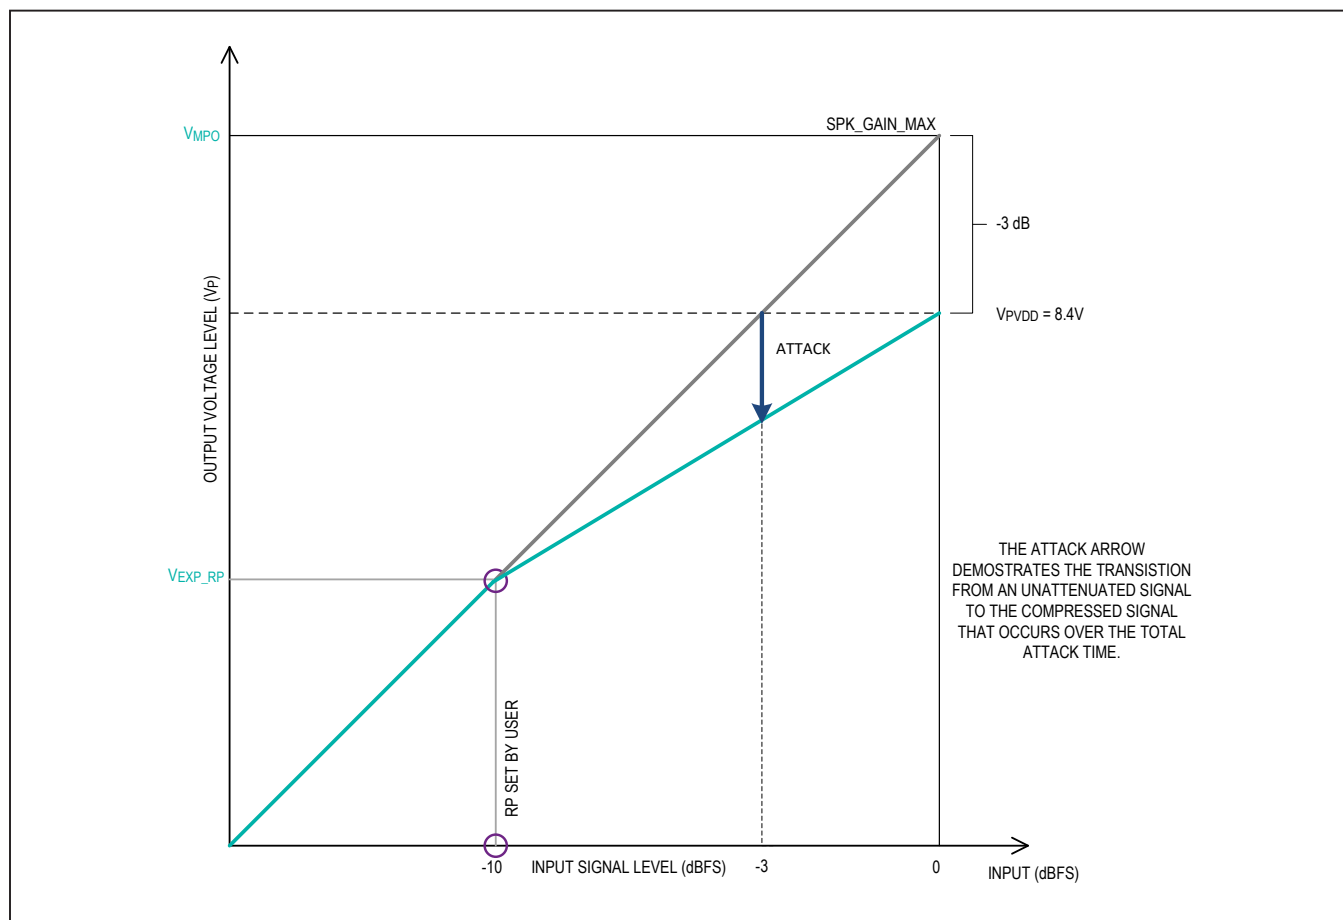

Figure 14. Dynamic Headroom Tracking Attack Functionality
When an input signal exceeds the rotation point, DHT applies attenuation to the signal over some amount of time (this is configurable through the DHT_ATK_RATE register 0x32). The instant that the large signal is input to the MAX98372, the output tries to reproduce that signal without any attenuation from the DHT. Over time, the DHT applies compression to ensure that the signal can fit within the available PVDD voltage. If a large enough input signal is applied there can be hard clipping on the output for a short time (Figure 14). However, after the full attack time has completed, there should be no clipping. Hard clipping can also be prevented by using the limiter. See the Limiter section.
where PVDD(V) is the voltage readback from the PVDD ADC, and V_{MPO} is the maximum peak output voltage (V_{MPO}), see Figure 14. For example, if $V_{PVDD} = 12V$ and $V_{MPO} = 12V$, then $PVDD(dBFS) = 0dBFS$. It should be noted that 0dBFS is the maximum value for PVDD(dBFS). If solving Equation 1 returns a value greater than 0 then 0dBFS should be used for further calculations. This is important as DHT only ever applies attenuation and never positive gain.